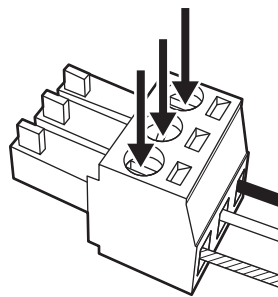

Fig. 2
- 2) **Tighten the screws of the Plug for 3-pin 3.5 mm detachable terminal block securely with a screwdriver and fix the lead wires. (Fig. 2)**